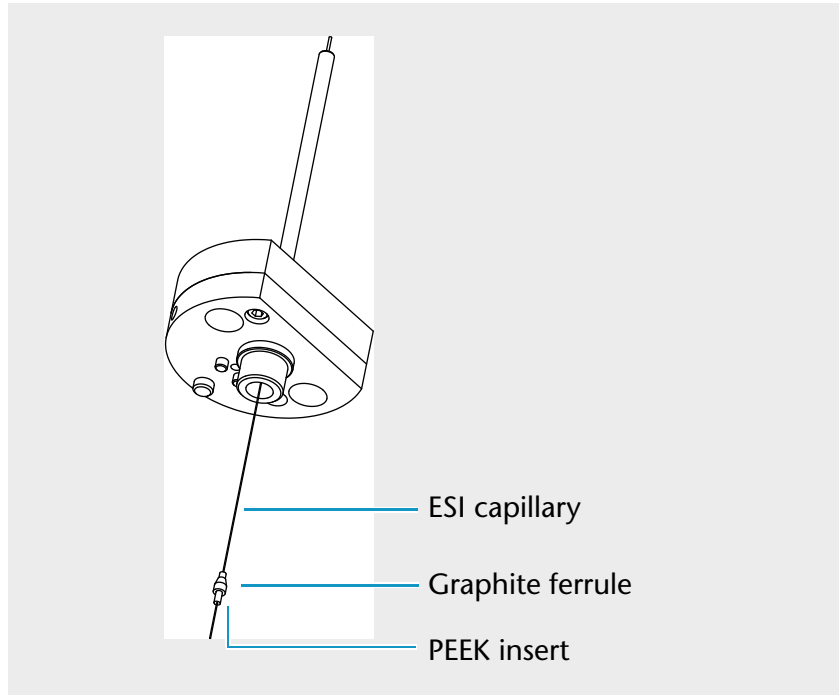

Fig. 37 Removing the capillary, graphite ferrule, and PEEK insert assembly from the probe
4. Place a lint-free cloth on the workbench, and then gently shake the ESI capillary (part number A66542), graphite ferrule (part number A66538), and PEEK tube insert (part number A66540) assembly out of the ESI probe onto the cloth, as shown in Figure 37.